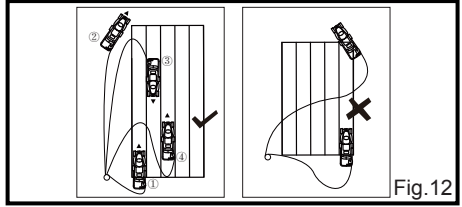

Fig. 12
Mowing (See Fig. 12)
- Avoid cutting the power cord. It is advised to mow away from the plug socket and avoid twisting the power cord (Fig. 12). Mow at a normal walking pace and always overlap tracks by a few centimetres for a gap-free finish.